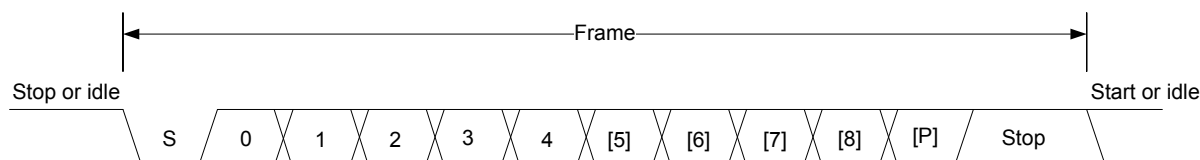

Figure 21.2. USART Asynchronous Frame Format
The frame format used in asynchronous mode consists of a set of data bits in addition to bits for synchronization and optionally a parity bit for error checking. A frame starts with one start-bit (S), where the line is driven low for one bit-period. This signals the start of a frame, and is used for synchronization. Following the start bit are 4 to 16 data bits and an optional parity bit. Finally, a number of stop-bits, where the line is driven high, end the frame. An example frame is shown in Figure 21.2 USART Asynchronous Frame Format on page 591.